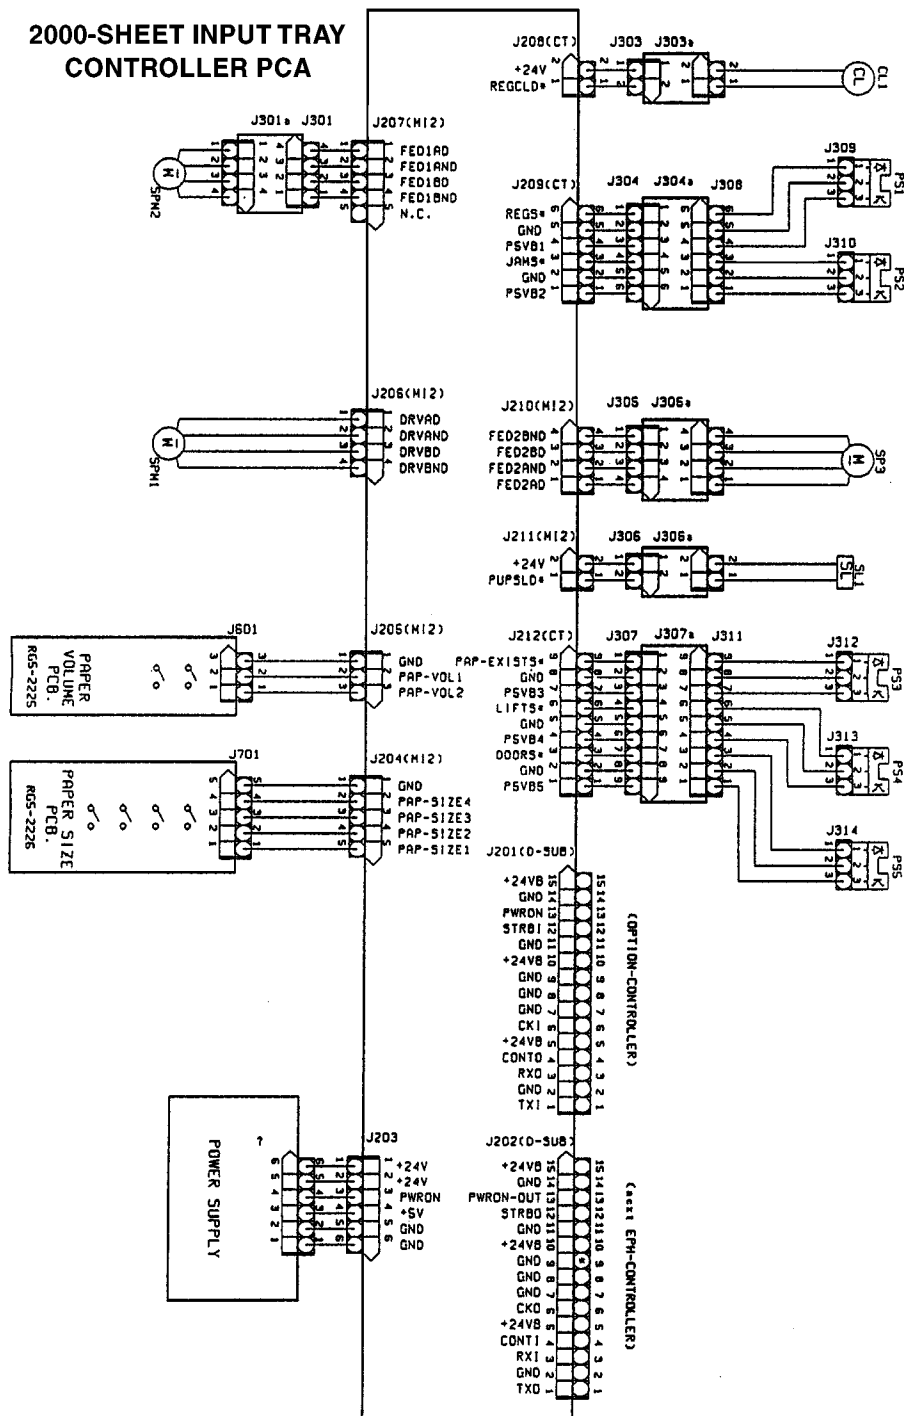

Figure 7-35 2000-sheet Input Tray Main Wiring Diagram
- Figure 7-35, “2000-sheet Input Tray Main Wiring Diagram,” on page 713